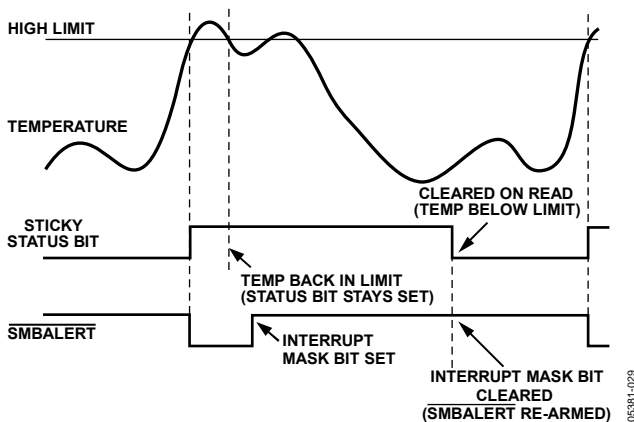

Figure 26. How Masking the Interrupt Source Affects $\overline{\text{SMBALERT}}$ Output
7. Periodically poll the status registers. If the interrupt status bit has cleared, reset the corresponding interrupt mask bit to 0. This causes the $\overline{\text{SMBALERT}}$ output and status bits to behave as shown in Figure 26.